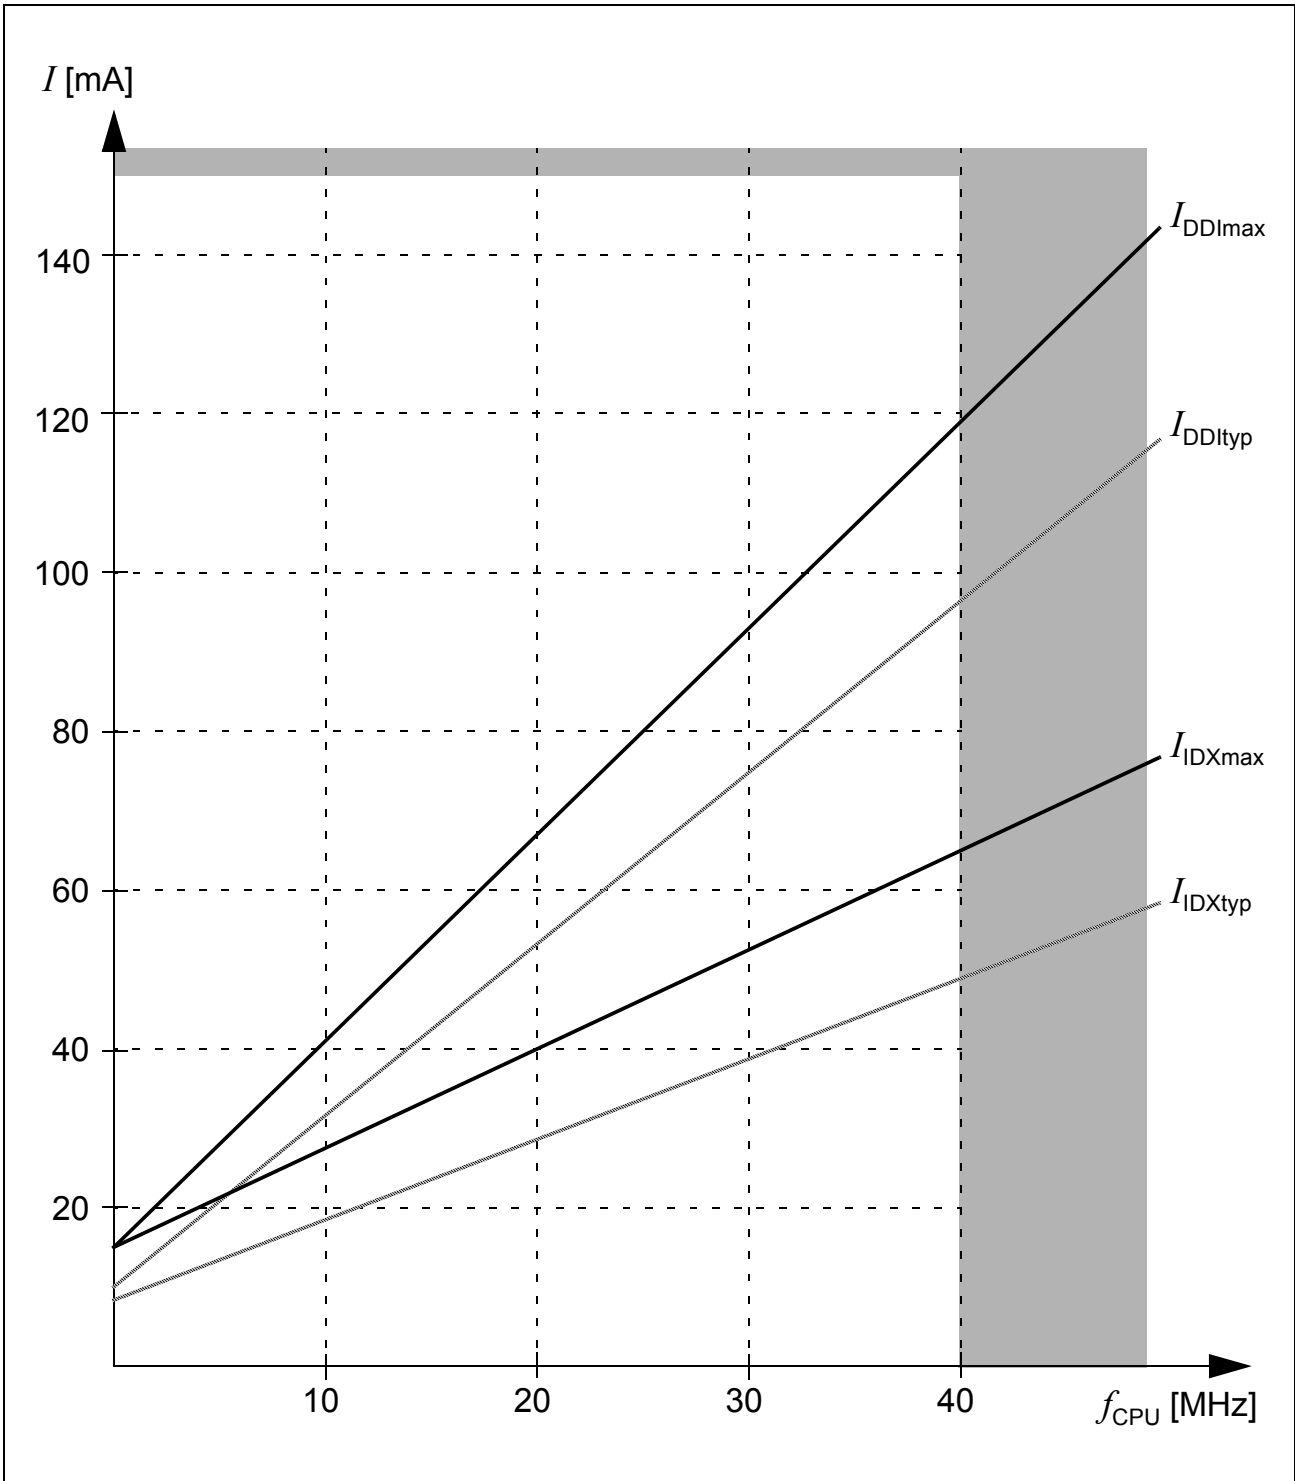

Figure 11 Supply/Idle Current as a Function of Operating Frequency
- 2) The supply current is a function of the operating frequency. This dependency is illustrated in Figure 11. These parameters are tested at $V_{DDI_{max}}$ and maximum CPU clock frequency with all outputs disconnected and all inputs at V_{IL} or V_{IH} .